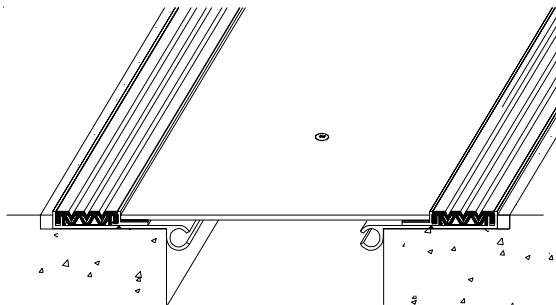

Figure 10
STEP 17. Select the elastomeric fillers. Insert each elastomeric filler's tabs into the corresponding channel in the base member and in the cover plate (see Figure 10). Ensure that each filler's tabs are inserted completely into their corresponding channel.